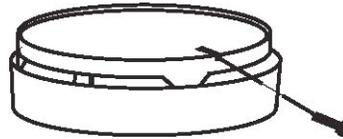

Figure 3: Tamper Resistant Locking Pin
Figure 3). Note the tamper resist pin will have to be removed in order to change the battery; this can be done easily with a long nose pliers. Using the long nose pliers pull the pin out of the hole, it is now possible to remove the alarm from the mounting plate.
- 8.2. To clean your alarm, remove it from the mounting bracket as outlined in Figure 2 Step D: Installation/Removal. IF TAMPER RESISTANT PIN HAS BEEN USED, REFER TO STEP 6.7 UNDER INSTALLATION INSTRUCTIONS FOR REMOVAL INSTRUCTIONS. (See Figure 3)
NOTE: IF TAMPER RESISTANT PIN HAS BEEN USED, REFER TO STEP 6.7 UNDER INSTALLATION INSTRUCTIONS FOR REMOVAL INSTRUCTIONS. (See Figure 3)